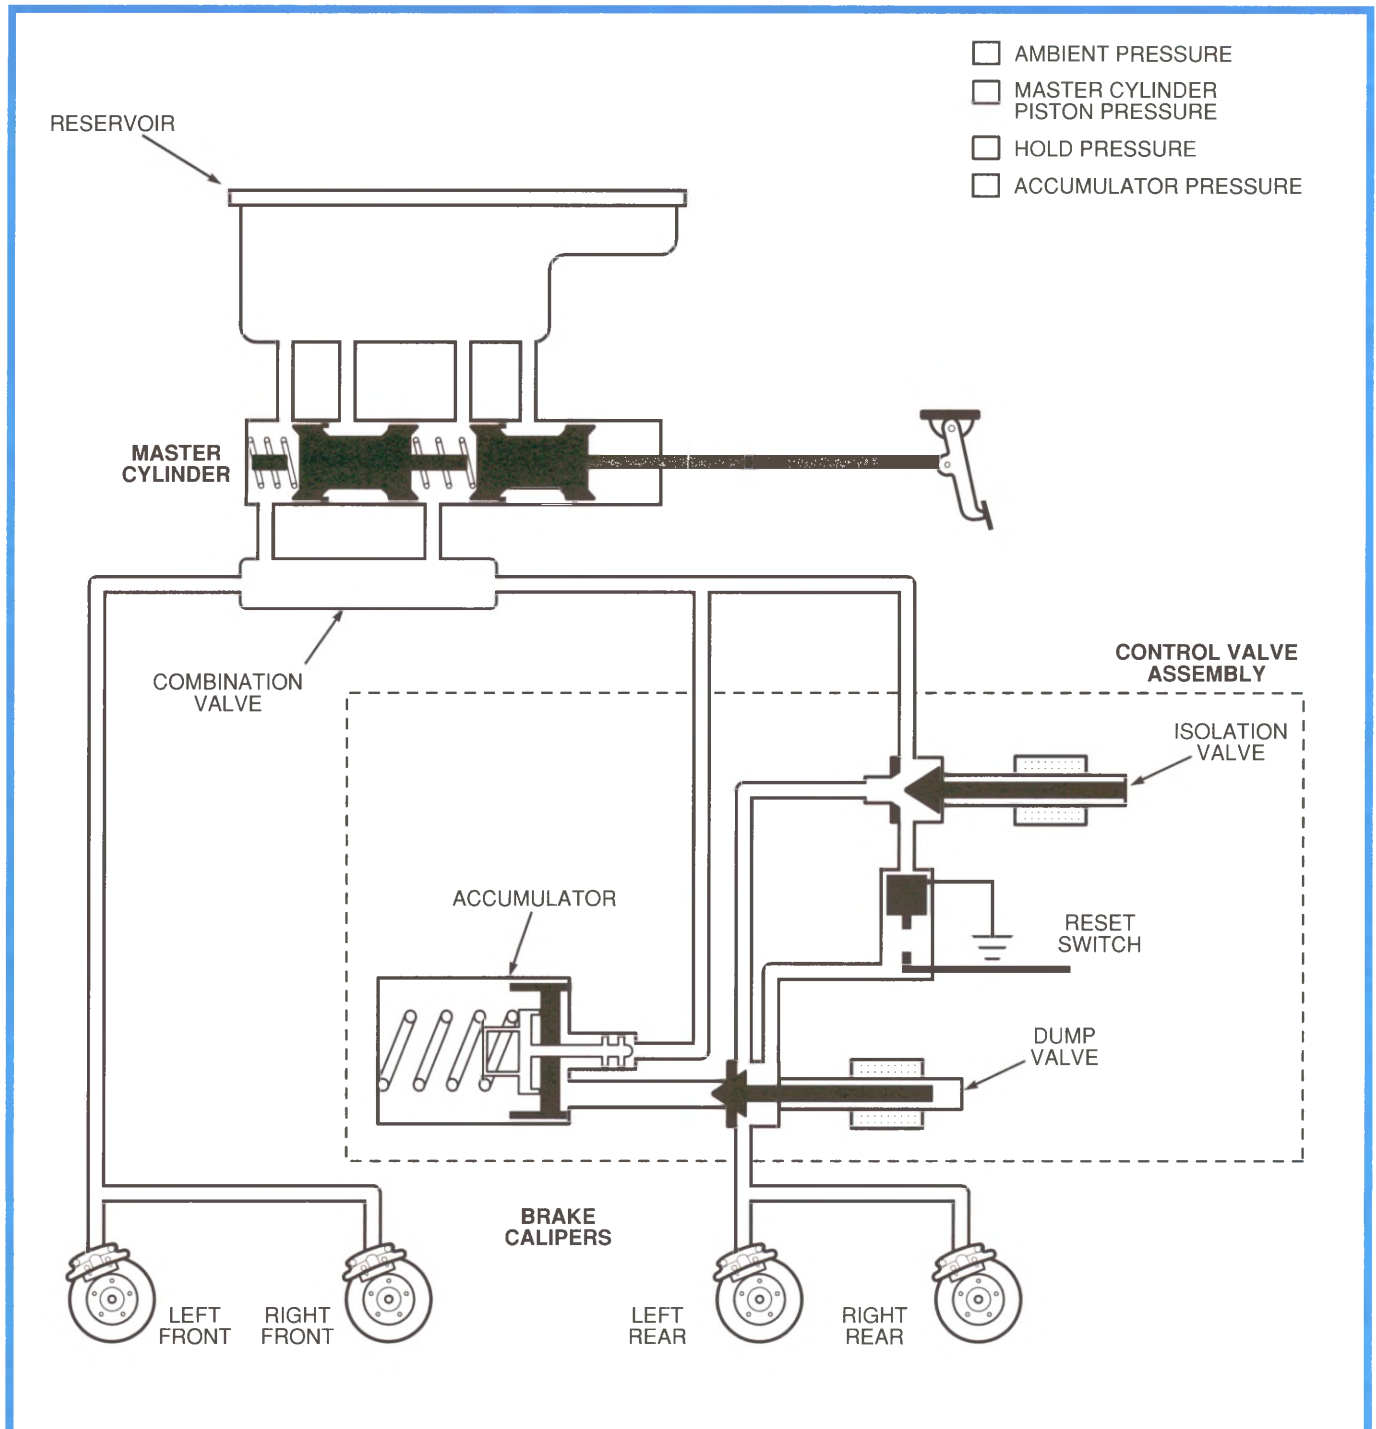

Figure 3-33, Kelsey-Hayes ZPRWAL Hydraulic System (Two Solenoids/Two Valves per Channel)
- Kelsey-Hayes ZPRWAL (Figure 3-33)